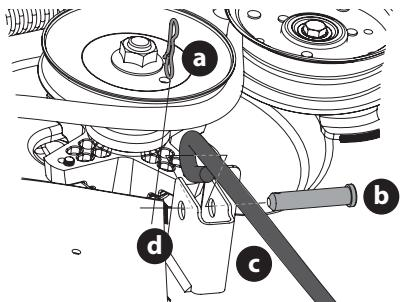

Figure 46
- b. Remove the third bow-tie pin (a) from the clevis pin (b) that secures the front deck control rod (c) to the front deck lift bracket (d). Remove the clevis pin (b) (Figure 46).